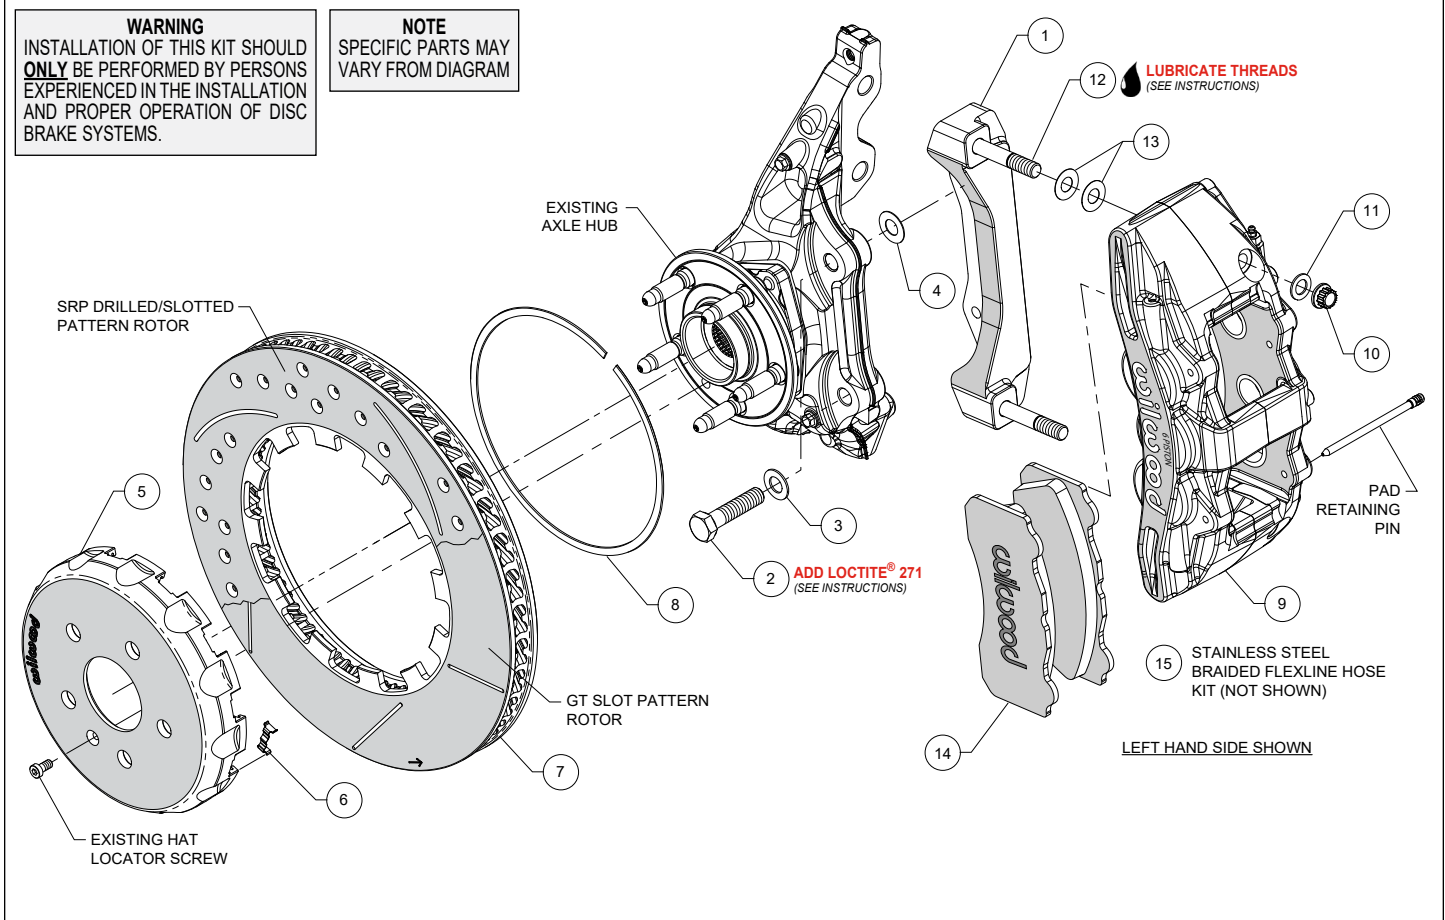

Figure 1. Typical Installation Configuration
NOTE: Numbers in parenthesis refer to the parts list and Figure 1 on the preceding pages.
•The caliper mount bracket (1) should initially be installed with clean, dry threads on the mounting bolts. Orient the bracket, as shown in Figure 1 and Photo 1, and install using bolts (2) and washers (3). Initially place one .029" thick shim (4) on each bolt between the bracket and upright, Figure 1. Temporarily tighten the mounting bolts. **NOTE:** The bracket must fit squarely against the mount bosses on the upright. Inspect for interference from casting irregularities, machining ridges, burrs, etc. Later, after the caliper alignment has been checked, the mount bolts will be secured using red Loctite® 271.
•Insert the dynamic mount wear clips (6) into the slots in the hat (5), Photos 2 and 3. Orient the rotor (7) as shown in Figure 1 and Photo 4, with the flush side of mount lugs facing the hat. Secure the rotor to the hat using the snap ring (8) by simultaneously pushing down on the rotor and installing the ring into the groove in the hat, as shown in Photo 5. Carefully inspect snap ring to ensure complete engagement in the groove.
•Slide the hat/rotor assembly onto the axle hub, Photo 6. **NOTE:** The hat must fit flush against the axle hub flange or excessive rotor run out may result. Install the hat locator screw (OEM), as shown in Figure 1, to keep the hat/rotor assembly in place while continuing with the installation..
•**NOTE:** This kit contains distinct right and left hand calipers that must be mounted in a specific direction, as described below. Lubricate the caliper mounting studs (12) with lightweight oil. Initially place two .015" thick shims (13) on each stud between the caliper and the bracket, as shown in Figure 1 and Photo 7. Mount the caliper (9) onto the bracket (1) using lock nuts (10) and washers (11), Figure 1. Temporarily tighten the lock nuts. Ensure that the caliper is mounted so the largest pistons are at the rotor exit end of the caliper, in relation to the direction of the rotor. View the rotor through the top opening of the caliper. The rotor should be centered in the caliper, Photo 8. If not, adjust by adding or subtracting shims (4) between the bracket and the upright. Always use the same amount of shims on each of the two mounting bolts. Once the caliper alignment is correct, remove the bracket mounting bolts (2) one at a time, apply red Loctite® 271 to the threads, and torque to 77 ft-lbs.
•Remove the two pad retaining pins from the caliper (9) by pushing out the pins from the tapered end using a blunt instrument. Insert the brake pads (14) into the caliper from the bottom, Figure 1 and Photo 9. With the friction material facing the rotor, secure the brake